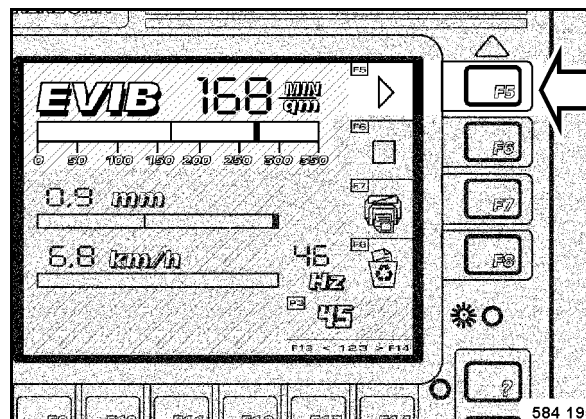

Fig. 89
- Control field F5 (Fig. 89) lights green.